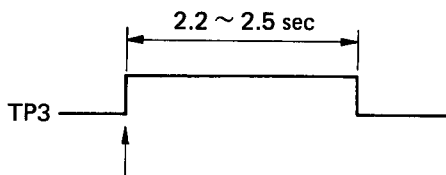

Fig. 7-3
3. When the tonearm is about 20mm away from the outer edge of the record, an output pulse signal will appear at TP3 (see Fig. 7-3). Adjust VR3 to obtain a time constant of 2.2 ~ 2.5 sec. for this pulse signal.